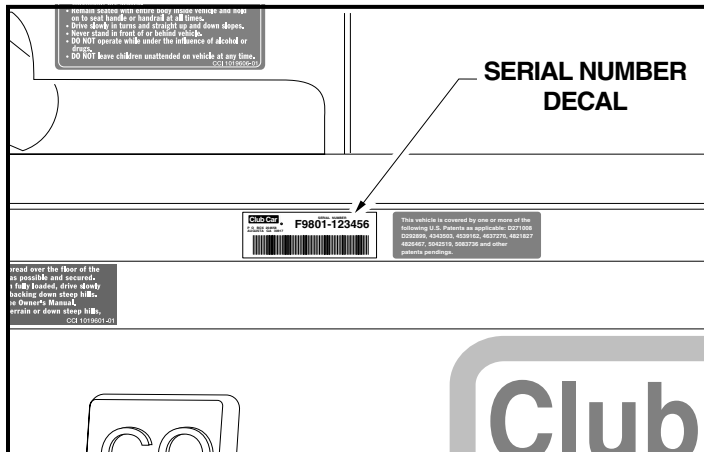

FIGURE 3
The serial number of your transportation vehicle is printed on a bar code decal mounted on the frame directly above the accelerator pedal (Example: J9801-123456 for Electric or JG9801-123456 for Gasoline) (**Figure 3**). There is also a second serial number decal mounted on the front body frame behind the center dash panel. The center dash panel must be removed to access this serial number.
- ALWAYS HAVE THE VEHICLE SERIAL NUMBER AT HAND WHEN ORDERING PARTS OR MAKING INQUIRIES. **SEE FIGURE 3.**